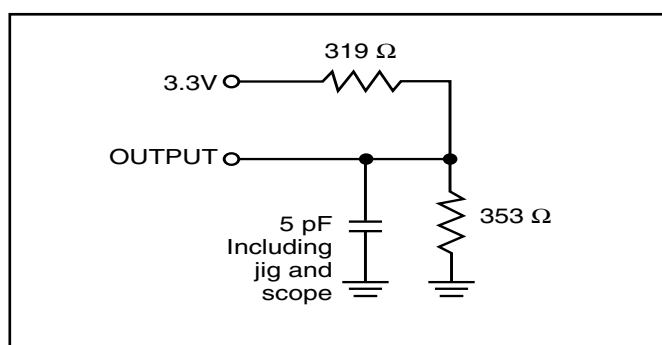

Figure 2.
- Tested with the load in Figure 2. Transition is measured ± 500 mV from steady-state voltage.
2. Tested with the load in Figure 2. Transition is measured ± 500 mV from steady-state voltage. Not 100% tested.